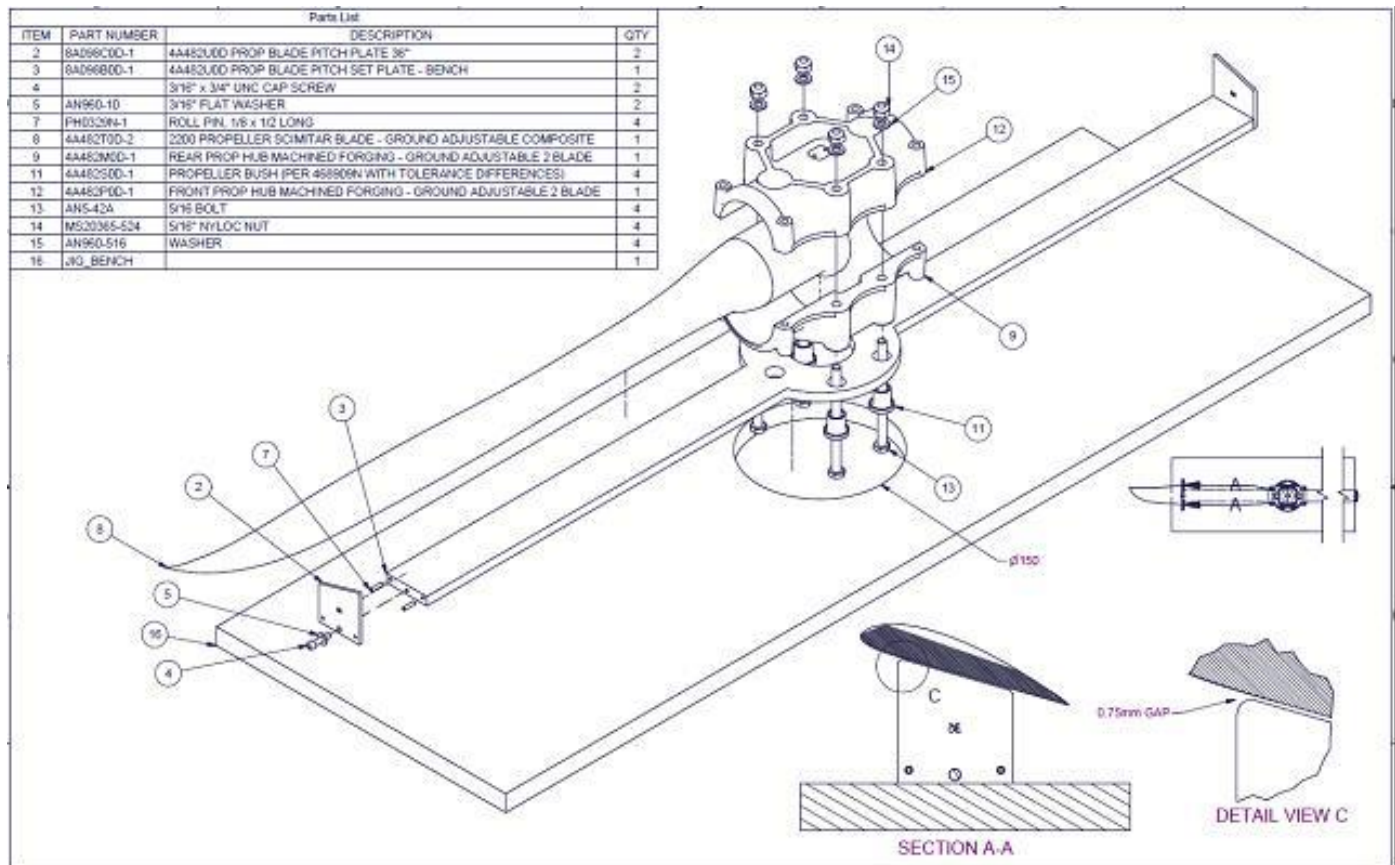

Figure 8 – Pitch Set Jig
The following procedure is the recommended method used to set the blade pitch of propellers not equipped with pitch lock pins. The setting Jig is shown in Figure 8.
1. Place the pitch setting jig on a flat, level surface. A special bench such as that shown in Figure 8 allows the assembly to sit level and the operator to adjust the 5/16" bolts without lifting it.